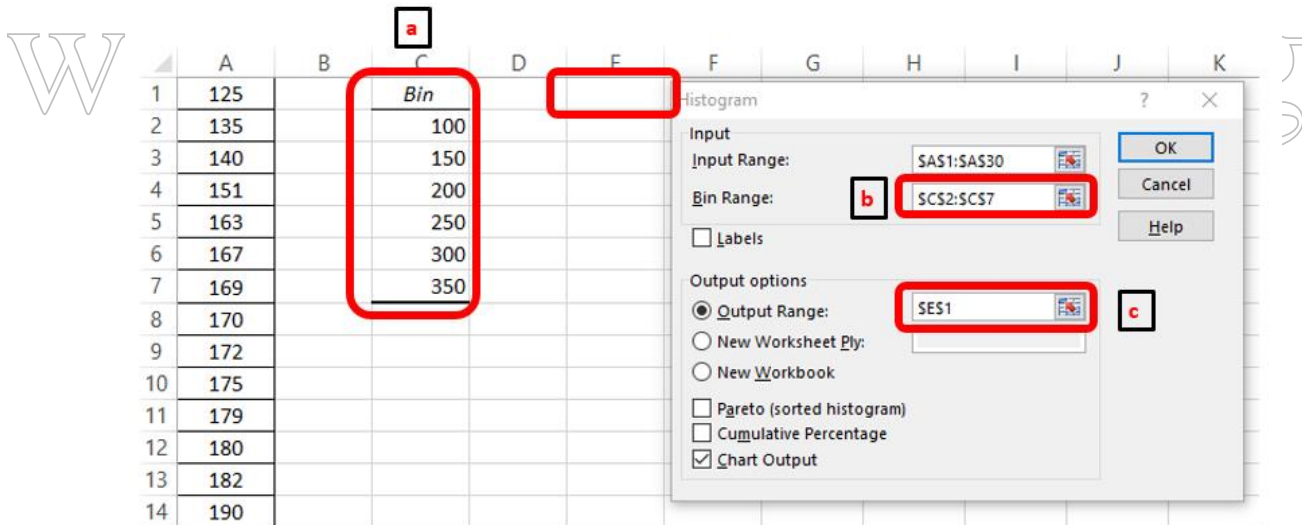

Figure 7: Setting up the Bins for Advanced Histogram
Step 6a: We repeat the steps in Step 2, only this time, we create the Bins as shown in Figure 7.